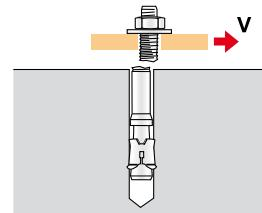

fig.20
- Steel failure without lever arm (fig.20): only the resisting section actually involved in the failure mode is taken into account.